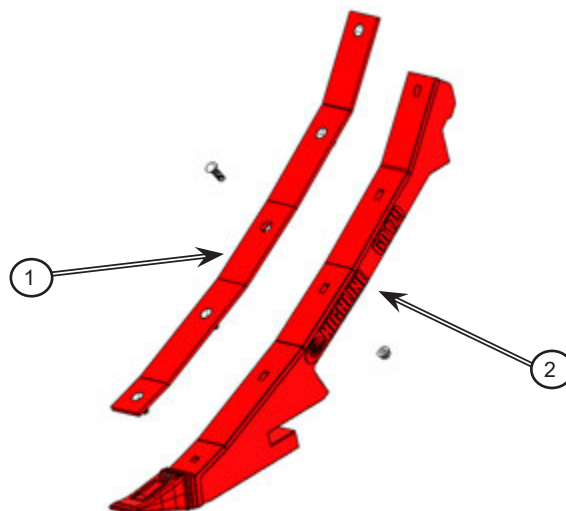

Figure 6.31: Install a new wear plate
4. Install the new wear plate; see *Figure 6.31*.
- a. Fasten the wear plate (1) onto the tine (2) using plow bolts and flange lock nuts. Ensure the plow bolts are slightly recessed after installation.